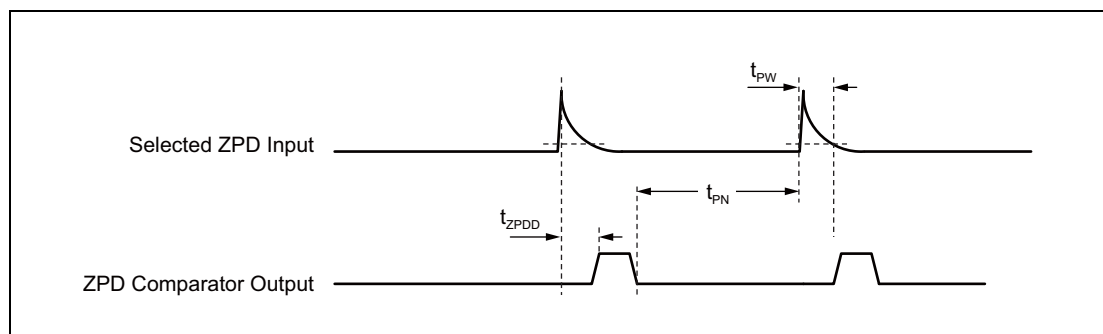

Figure 1.37 Timing of ZPD Function
- For the timing of the ZPD function refer to **Figure 1.37, Timing of ZPD Function**.